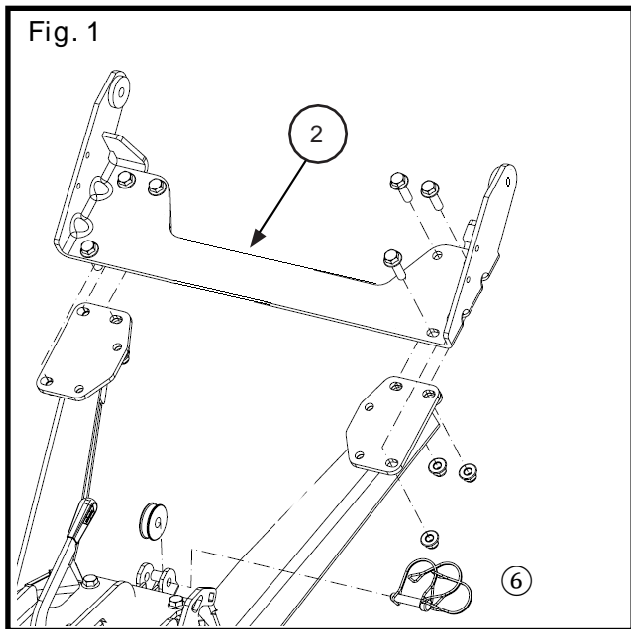

Fig. 1
1. Install plow mount flange (2) as shown using six M10 bolts and locknuts, supplied with SXS plow push tube kit. **Torque to 50 N-m (37 ft-lb or 5.0 m-kg).** (Fig. 1.)
7. Connect the plow using the retaining pins (6) (Fig. 1).